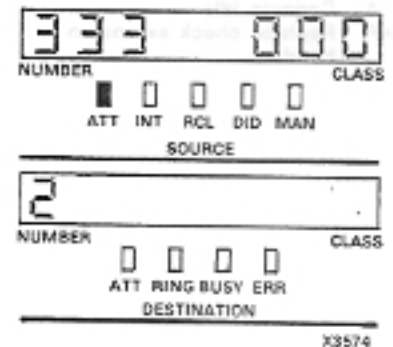

Fig. 320-1
* DESTINATION display shows room status code (Fig. 320-1)